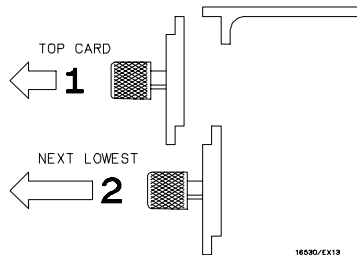

Figure 4-6. Endplate Overlap - Top Sequence
1. Remove power from the instrument. Pull the modules located above the oscilloscope halfway out, then remove the filler panels and cards located above the oscilloscope. See figure 4-6 for the removal sequence.